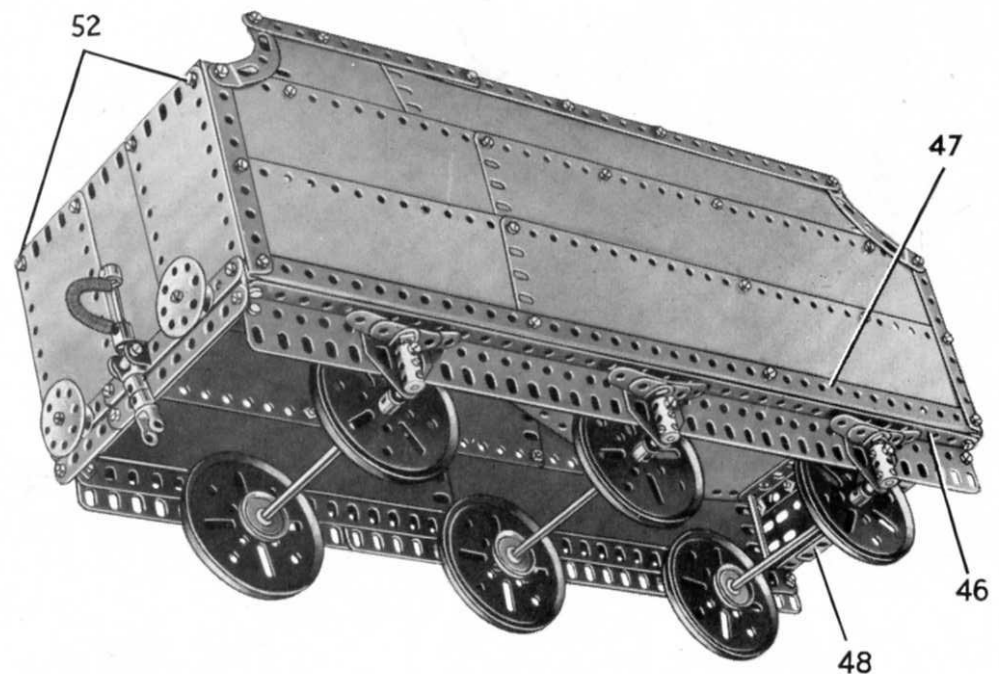

FIG. 9 Another view of the Tender
Each side of the underframe is made by bolting a $12\frac{1}{2}$ " Flat Girder and a $9\frac{1}{2}$ " Flat Girder to an $18\frac{1}{2}$ " Angle Girder (46) (Fig. 9). A further $18\frac{1}{2}$ " Angle Girder (47) is fixed to the Girder (46), and the sides are connected at each end by built-up girders (48), each made from a $5\frac{1}{2}$ " and a $2\frac{1}{2}$ " Angle Girder overlapped three holes. The wheels are free to turn between Spring Clips and 1" Pulleys on $6\frac{1}{2}$ " Rods, which are mounted in Flat Trunnions and in Couplings fixed to the Flat Trunnions by $\frac{3}{4}$ " Bolts. The leaf spring above each Coupling is formed by a $2\frac{1}{2}$ " Strip and a $1\frac{1}{2}$ " Strip supported by an Angle Bracket.
The front pair of $4\frac{1}{2}$ " Angle Girders is connected by a built-up girder (50), made from a $5\frac{1}{2}$ " and a $2\frac{1}{2}$ " Angle Girder. A $5\frac{1}{2}$ " \times $1\frac{1}{2}$ " Flexible Plate is fixed between this and the girder (48). A further built-up girder (51), made in the same way as the girder (50), is fixed in position, and to these girders are bolted three $12\frac{1}{2}$ " \times $2\frac{1}{2}$ " Strip Plates. The Strip Plates are curved as shown and are attached to the Girders (49). Each Strip Plate is extended by two $4\frac{1}{2}$ " \times $2\frac{1}{2}$ " Flexible Plates. These are supported at their rear ends by a built-up girder held by bolts (52) (Fig. 9), and made from a $5\frac{1}{2}$ " and a $1\frac{1}{2}$ " Angle Girder. A Boiler End is attached to this girder by an Angle Bracket.
The back of the tender is filled in by three $4\frac{1}{2}$ " \times $2\frac{1}{2}$ " Flexible Plates, edged at their lower ends by two built-up strips each made from two $4\frac{1}{2}$ " Strips. The buffers are Wheel Discs and $\frac{1}{2}$ " fixed Pulleys on $\frac{3}{4}$ " Bolts. The tender coupling and the brake pipe are arranged as shown in Fig. 9.